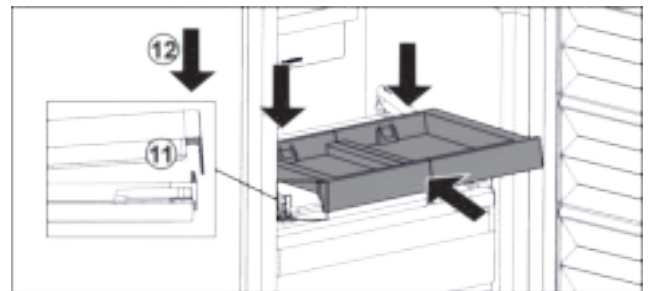

Fig. 22
- ▶ Slide it in at an angle. Make sure that the stop is behind the lug on both sides. Fig. 22 (11)
- ▶ Lower the pull-out board at the front. Fig. 22 (12)